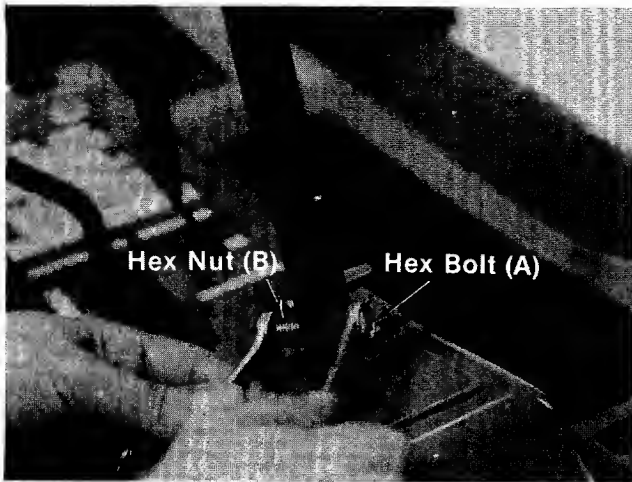

FIGURE 2.
3. Hold up the shaft assembly. Place the steering tube assembly on the shaft and start the hex bolt (A) through the hole. See figure 2.
4. Fasten the tubing assembly to the steering shaft assembly with hex bolt and hex nut (B) provided.